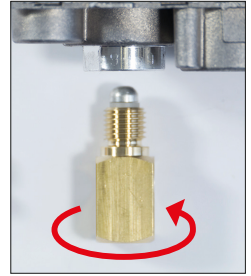

Figure 13
2. Tighten brass thermocurrent adapter block into valve $\frac{1}{4}$ turn beyond finger tight (see figure 13). If necessary, an additional $\frac{1}{4}$ turn is possible.